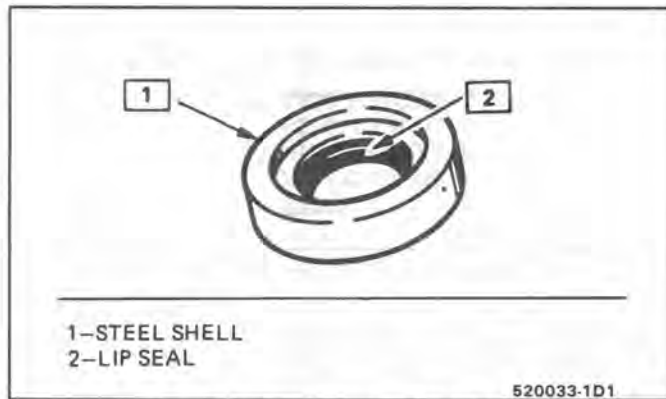
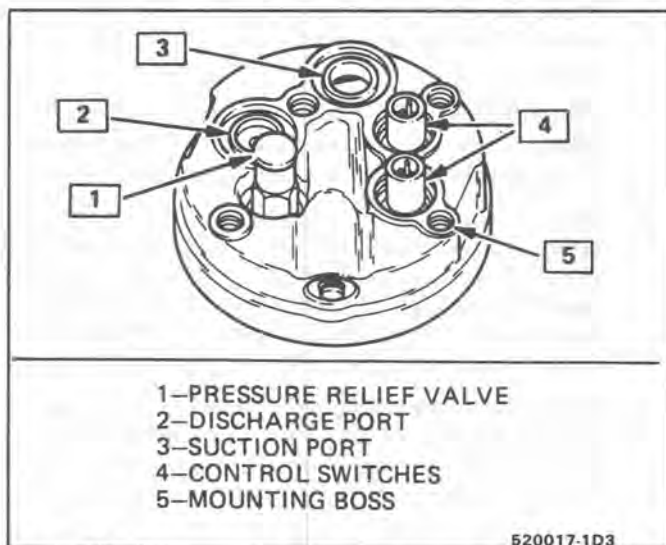

Fig. 22 Compressor Shaft Seal
Fig. 23 Compressor and Clutch Assembly - Rear View
When replacing the shaft seal assembly (Fig. 22), pressure relief valve or rear head mounted pressure switches (Fig. 23), even if the compressor remains on the vehicle during the operation, it will be necessary to discharge the system of refrigerant (see Section 1B).
**Seals should not be re-used**. Always use a new specification service seal kit on rebuild (Fig. 22). Be sure that the seal to be installed is not scratched or damaged in any way. Make sure that the seal is free of lint and dirt that could damage the seal surface or prevent sealing.
2. Remove old pressure relief valve (Fig. 23).
2. Disconnect the electrical connector from the high-pressure cut-off switch in the rear head of the compressor (Fig. 23).
3. Remove the high-pressure cut-off switch retaining ring (Fig. 23), using J-5403 internal snap ring pliers.